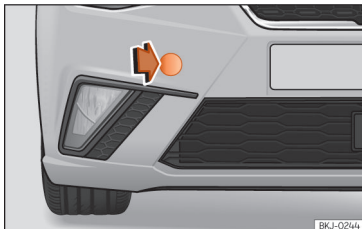

Fig. 45 Right side of the front bumper: remove the cover.
The housing of the removable towline anchorage is on the right side of the front bumper underneath a cover »» **Fig. 45**.
- Remove the cover by pressing down on its left-hand side and leave it hanging from the vehicle »» **Fig. 45**.